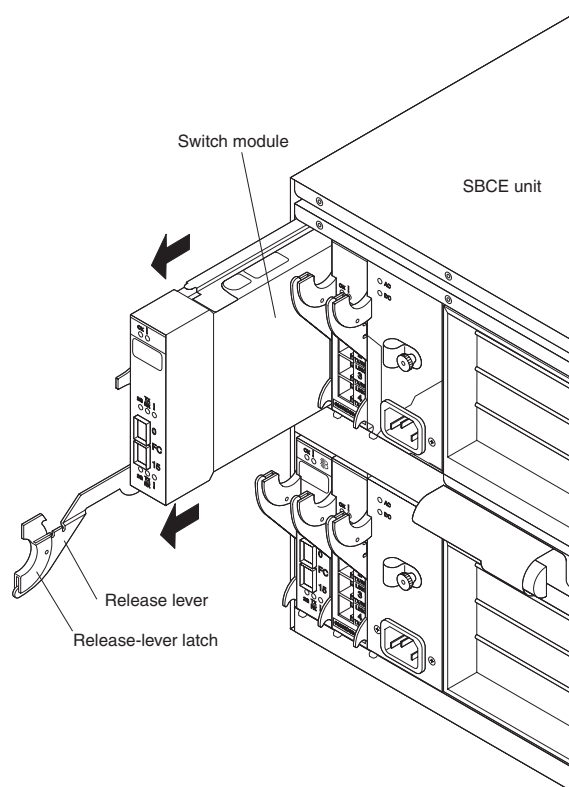

Figure 7. Removing a switch module
5. Pull the release latch toward the bottom of the switch module, as shown in Figure 7. The module moves out of the bay approximately 0.6 cm (0.25 inch).